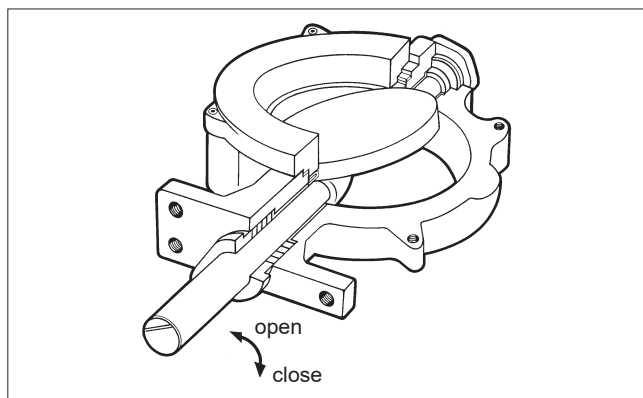

Fig. 12 The contact line between the disc and seat ring
The marking line parallel to the disc on the valve shaft head shows roughly the closed position of the disc (see Fig. 12).
Press the shafts into the disc drillings. Align the pin holes. The shaft (11) position against the disc must be according to Fig. 12.